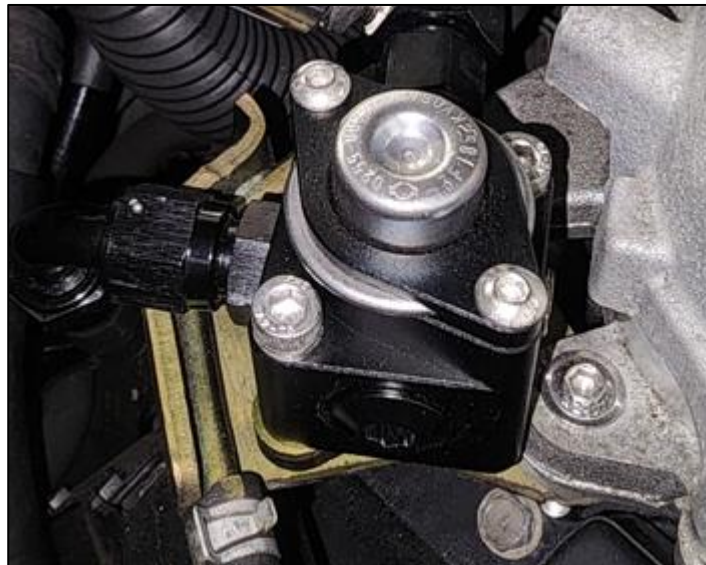

Figure 39
- Locate the Z1 Damper with sealing O-Ring and (2) two Hex Head Bolts. Install the Z1 Damper in the OE Damper Location with the Male Flares pointing towards the Firewall. Torque bolts to **74 in-lbs**, or **6.1 ft-lbs**. *Figure 39.*